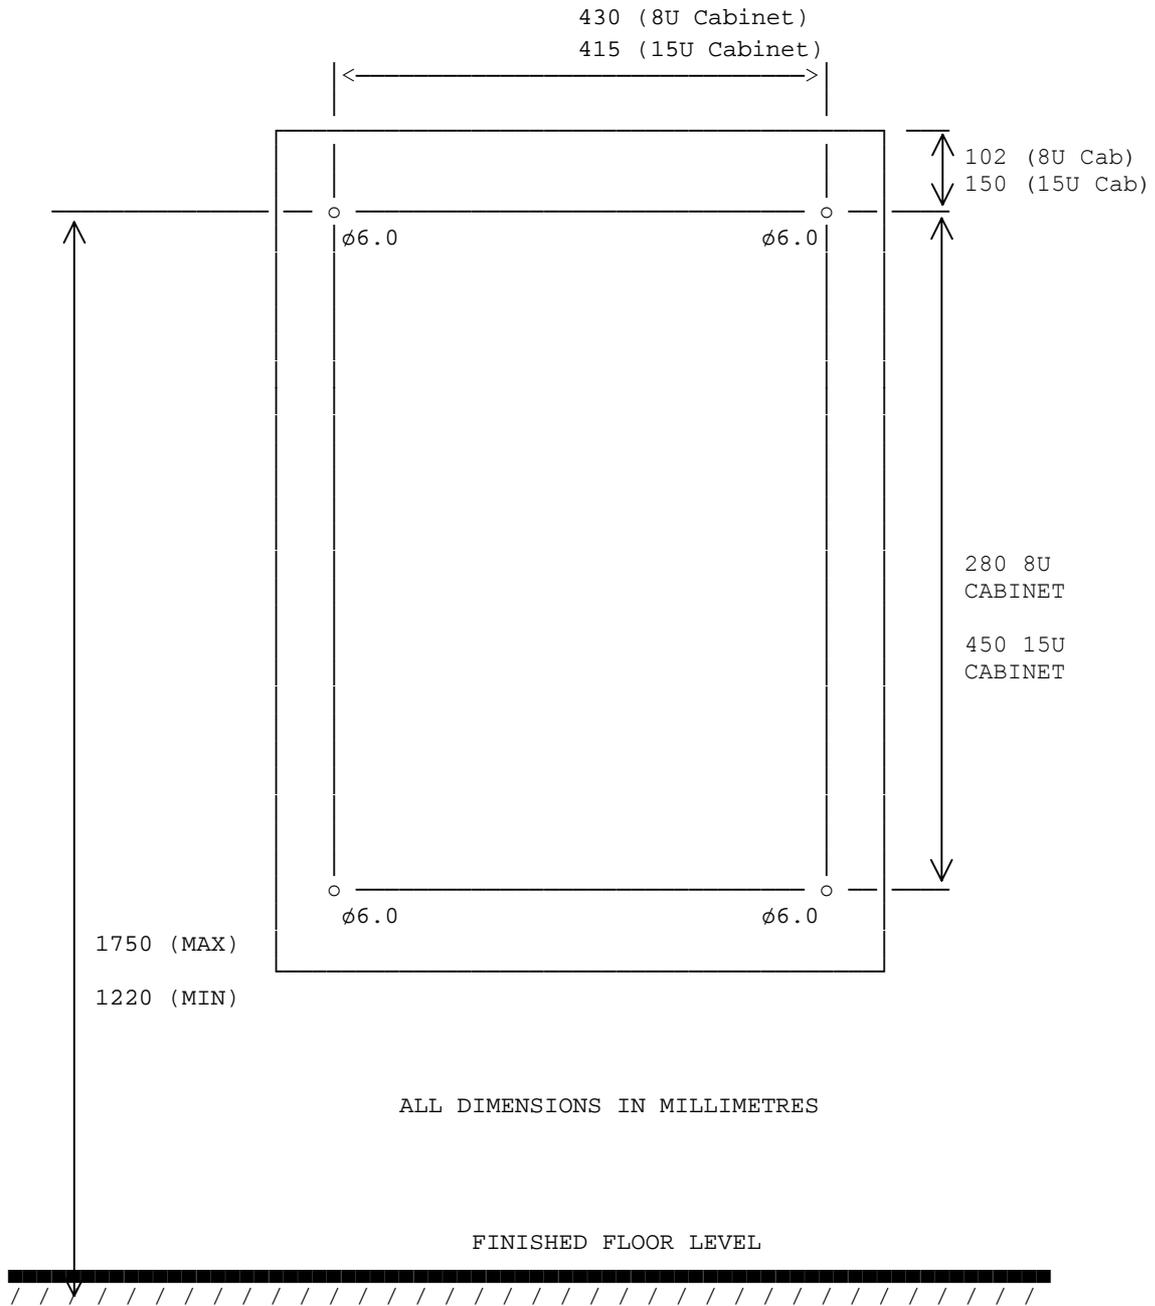

FIG 8.1.1
The cabinet is normally fixed to a wall with four 6 mm screws or bolts. The drilling details are shown in Fig 8.1.1.
4. The LCD should be at average eye level and must not be higher than 1850 mm or lower than 750 mm above floor level (see Fig 8.1.1).